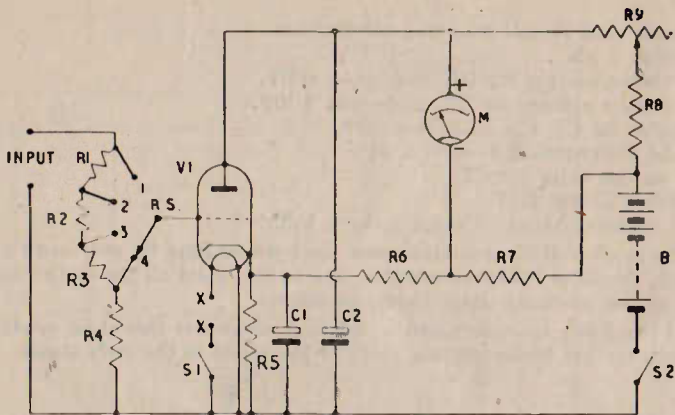

FIG. 20. A.C. and Audio Frequencies Valve Voltmeter.
A.C. AND AUDIO FREQUENCIES VALVE VOLTMETER—Fig. 20.